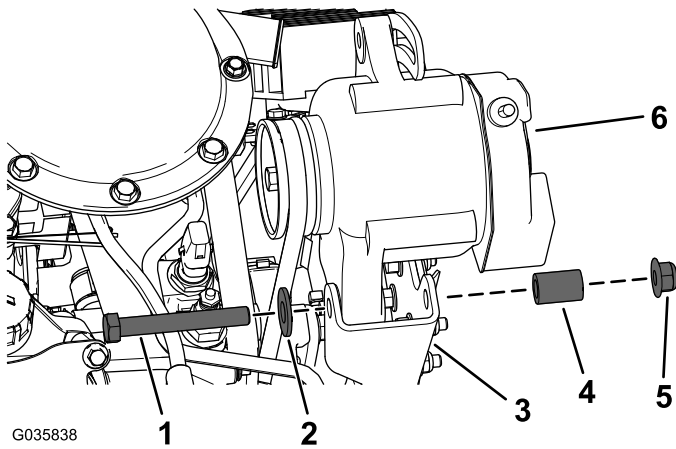

Figure 11
3. Install the alternator to the alternator bracket with the hex-head screw (3/8 x 2-3/4 inches), flat washer (7/16 inch), spacer, and flange nut (3/8 inch) as shown in Figure 11.